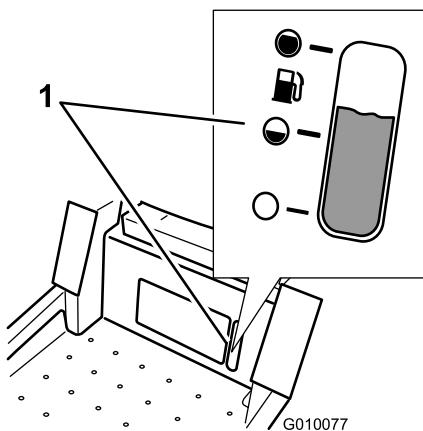

Figure 12
Use the fuel window below the operator to verify the level of gasoline before filling the tank (Figure 12).
**Note:** You can use the fuel window below the operating position verify the presence of gasoline before filling the tank (Figure 12).